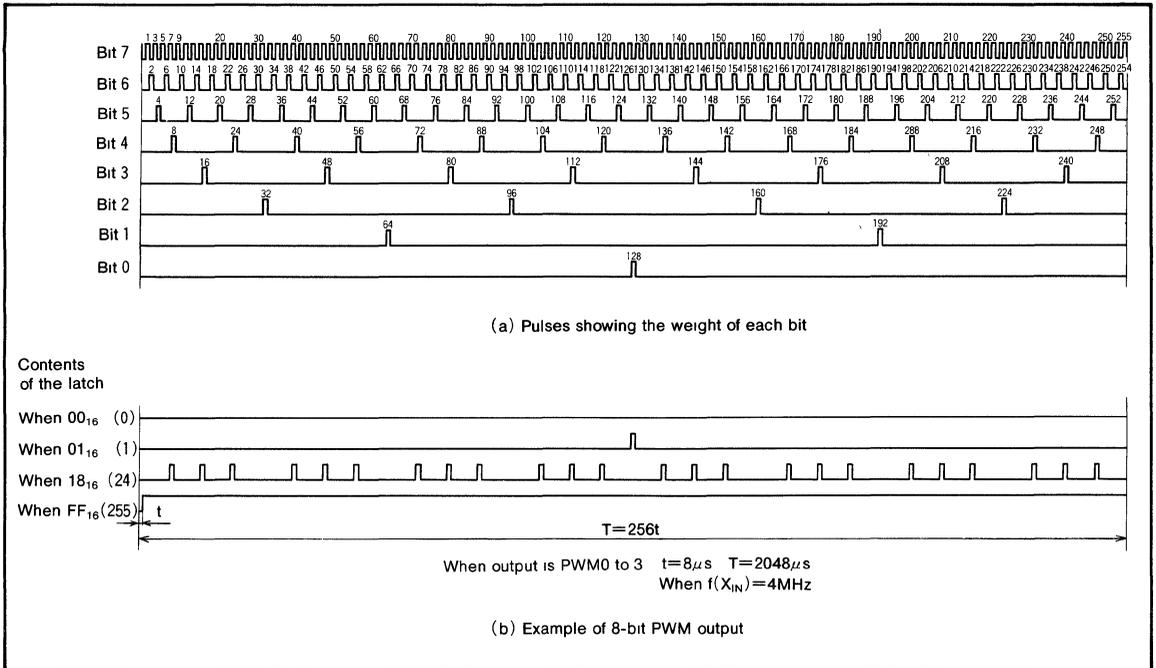

Fig. 17 8-bit PWM timing diagram
(4) Operation of the 8-bit PWMs
The timing diagram of the four 8-bit PWMs (PWM0 to 3) is shown in Figure 17. One period (T) is composed of 256 (2⁸) segments.
There are eight different pulse types configured from bits 0 to 7 representing the significance of each bit. These are output within one period in the circuit internal section. Refer to Figure 17 (a).
Eight different pulses can be output from the PWM. These can be selected by bits 0 through 7. Depending on the content of the 8-bit PWM latch, pulses from 7 to 0 is selected. The PWM output is the difference of the sum of each of these pulses. Several examples are shown in Figure 17 (b). Changes in the contents of the PWM latch allows the selection of 256 lengths of high-level area outputs varying from 0/256 to 255/256. An length of entirely high-level output cannot be output, i.e. 256/256.